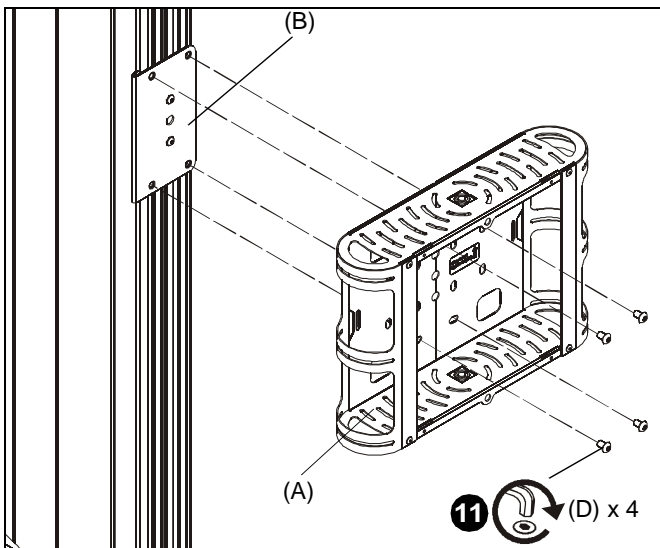

Figure 5
11. Use four 5/16-18 x 1/2" button head cap screws (D) to secure CPU holder (A) to adapter bracket (B). (See Figure 5)